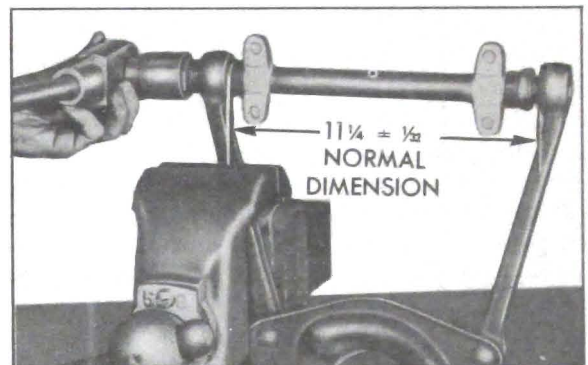

Figure 7-14—Installing First Bushing
3. Check the distance between inner ends of control arm. The normal dimension is $11\frac{1}{4}$ " plus or minus $\frac{1}{32}$ ", from inside to inside. See figure 7-14.
7. Start first bushing on shaft and into control arm at the same time. Turn bushing until head is tight against arm and tighten to a minimum of 100 ft. lbs. torque. See figure 7-14.